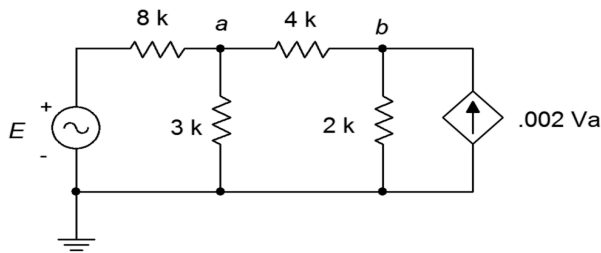

Figure 6.25
56. Given the circuit in Figure 6.25, determine the current flowing through the $3\text{ k}\Omega$ resistor if the source $E = 25\angle 33^\circ$.
57. Given the circuit in Figure 6.25, determine v_{ab} . Assume the source $E = 15\angle -112^\circ$.